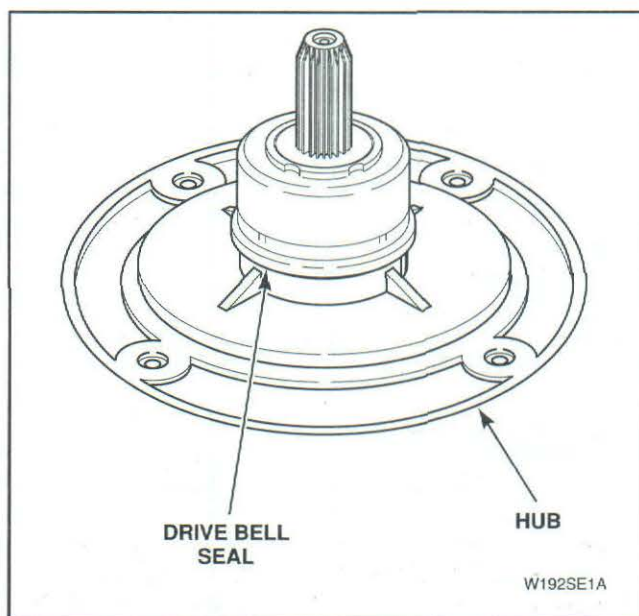
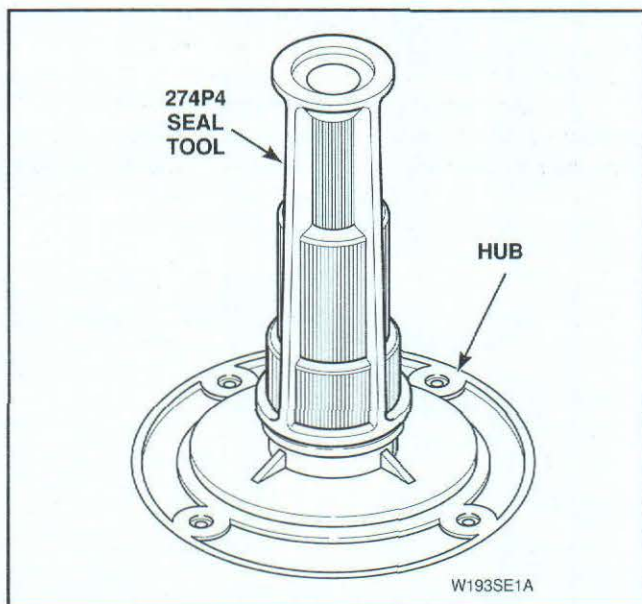

Figure 45
Figure 46
- k. Place new drive bell seal on hub, *Figure 45*, and carefully push seal into position using large end of No. 274P4 Seal Tool, *Figure 46*.